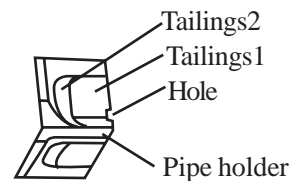

Fig.5
1. When routing the piping and wiring from the left or right side of the indoor unit, cut off the tailings from the pipe holder in necessary (shown in Fig.5).
- ① Through the hole when routing the wiring only.
- ② Cut off the tailings 1 when routing both the wiring and piping.